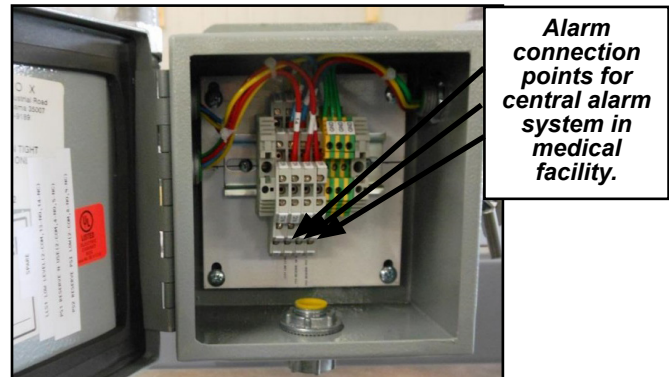

Figure 7 - Alarm connection points
- A qualified electrician hired by the owner should tie in the alarms from the medical facility alarm panel to the medical skid. All medical skids are equipped with a central termination point for all alarms (see Figure 7).